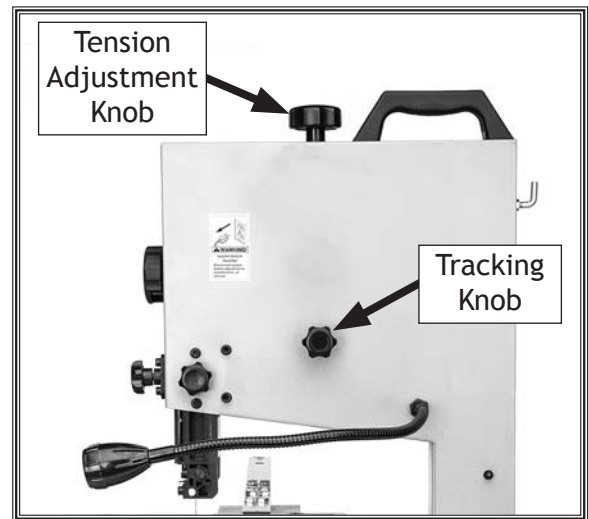

Figure 21. Blade tension and tracking controls.
6. Spin upper wheel with one hand and slowly adjust tracking knob (see **Figure 21**) with other hand until blade consistently tracks in center of wheel.